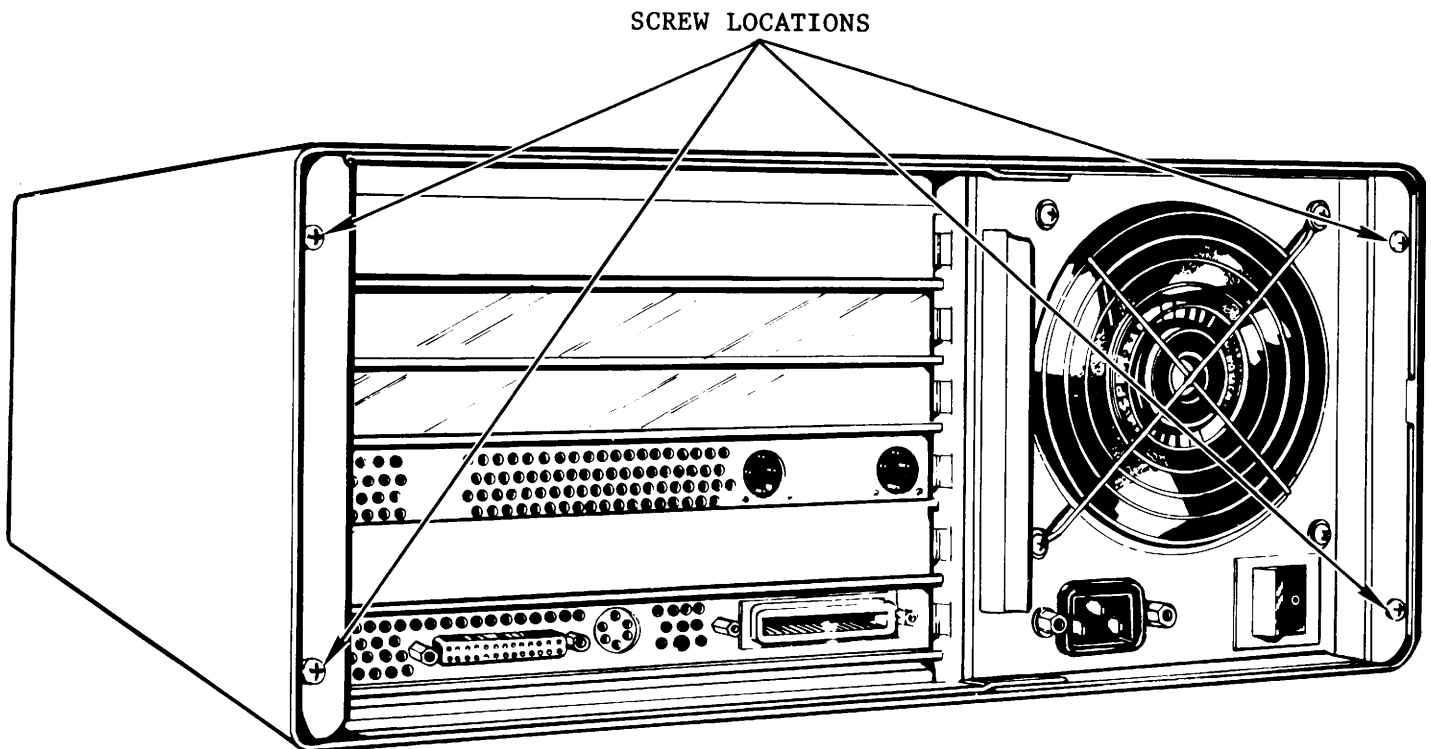

Figure 5-18. System Unit Cover Removal
- 2) Position the System Unit horizontally (air vents pointing down) and remove the four Phillips-head screws from the rear corners of the unit (see Figure 5-18).